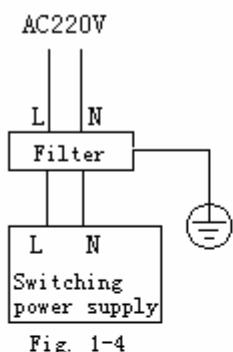

Fig. 1-4
- (1) CNC must be kept away from the equipment with interference (e.g. inverter, AC contactor, electrostatic generator, high voltage generator, and sub-unit of power lines), and the switching power supply should be connected to a filter to improve the anti-interference of CNC (as in Fig.1-4);
- (2) To supply power to the system through isolation transformer, the machine tool must be grounded, CNC and drive must be connected to separate earth wire.